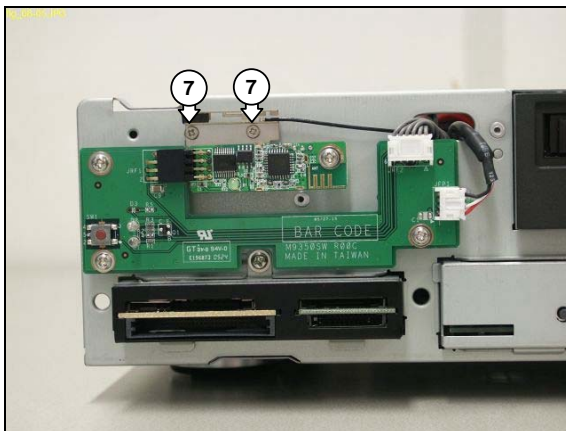

Figure 12.8-5
6. Remove the 2 mounting screws (7) from the antenna. See Figure 12.8-5.